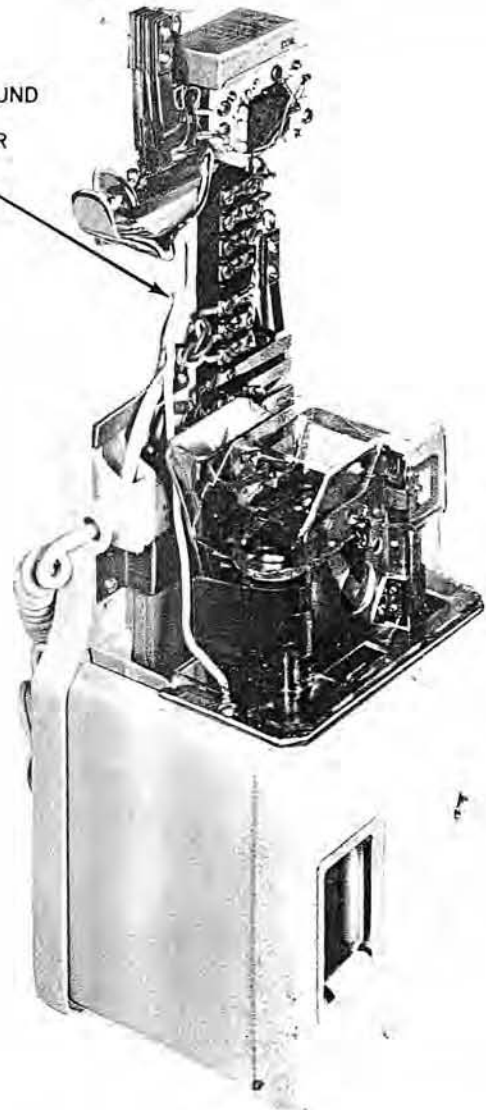

Figure 2. Ground Wire Attachment.
- (1) Solder a spade terminal (D-15830-A) to each end of a #14 wire (wire length sufficient to reach from mechanism base mounting screw, through the wire opening in the lower housing to the protector ground terminal). Terminate the spade terminal under the mechanism base mounting screw shown in Figure 2. Route the wire through the lower housing to the protector ground terminal (the wire must be routed so that it does not obstruct the coin return chute opening or the coin trigger). Wrap the end of the wire around the protector ground terminal.